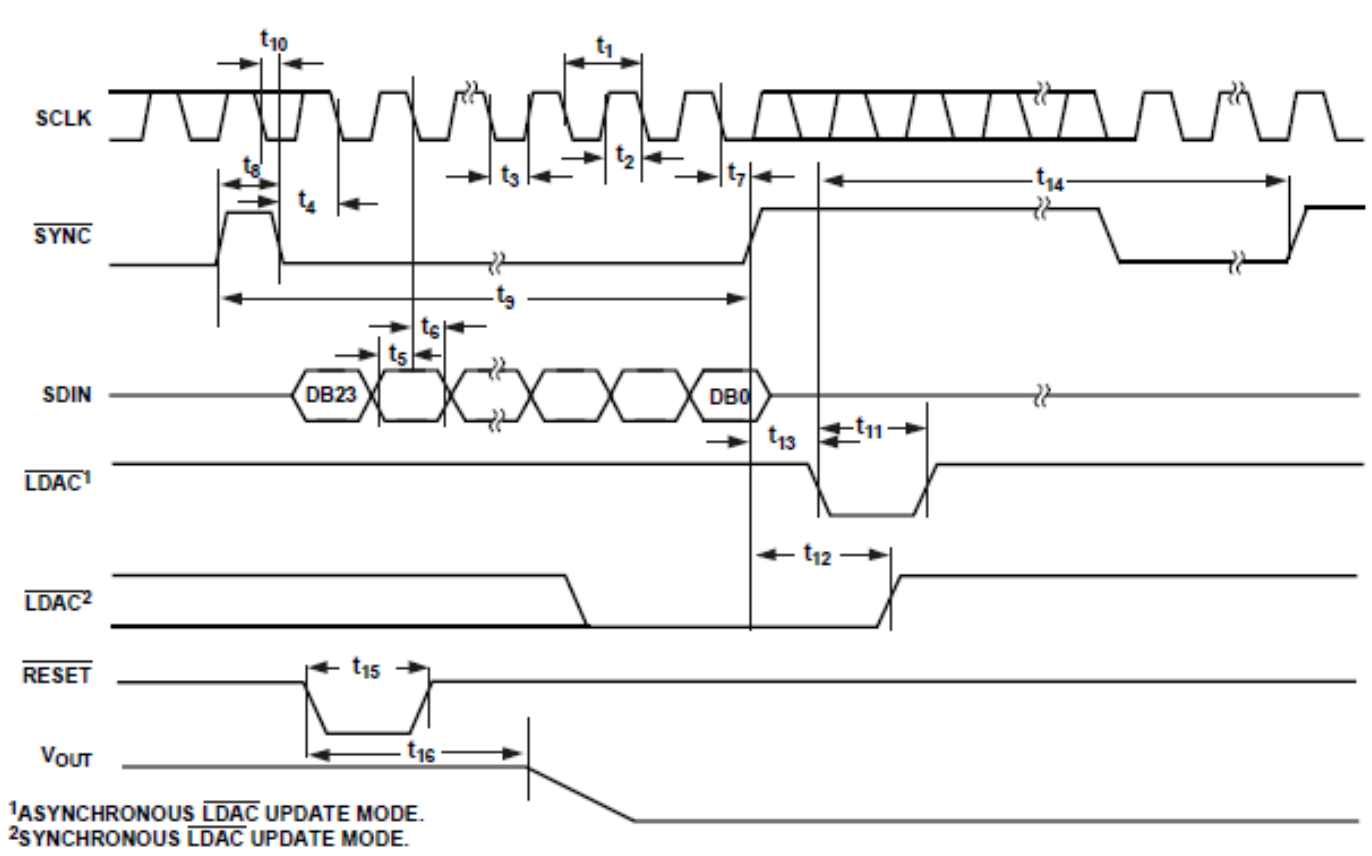

FIGURE 5. Serial Write Operation.
- 17/ All input signals are specified with $t_R = t_F = 1\text{ ns/V}$ (10% to 90% of V_{DD}) and timed from a voltage level of $(V_{IL} + V_{IH})/2$. See Figure 5. $V_{DD} = 2.7\text{ V to }5.5\text{ V}$, $1.8\text{ V} \leq V_{LOGIC} \leq 5.5\text{ V}$; $V_{REF} = 2.5\text{ V}$. All specifications T_{MIN} to T_{MAX} , unless otherwise noted.